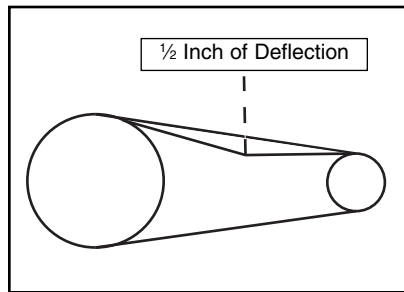

Figure 13. V-belt deflection.
6. A properly tensioned V-belt will have about a $\frac{1}{2}$ inch deflection as shown in **Figure 13**.